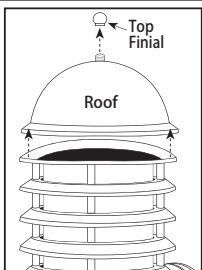

Figure 13
- k. For large Louver fixtures, unscrew top finial, remove roof and insert bulb. Reattach roof with top finial (see figure 13).